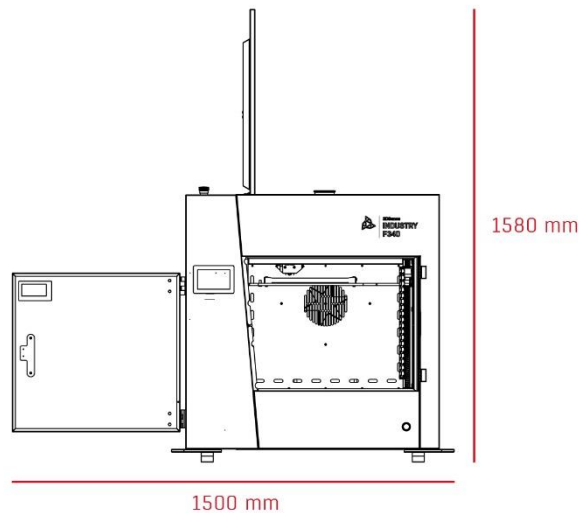
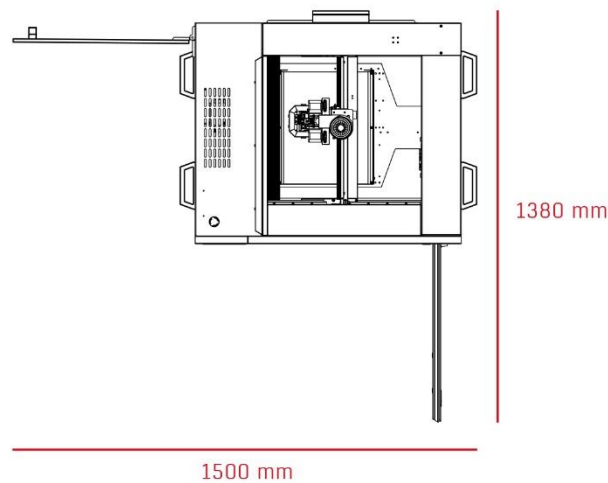

Fig. 6 Maximum dimensions of 3DGence INDUSTRY F340 printer – front view
Fig. 7 Maximum dimensions of 3DGence INDUSTRY F340 printer – overview
- ensure sufficient free space around the printer based on the printer's external dimensions (fig. 6 and fig. 7); ensure access to all sides of the printer for maintenance purposes,